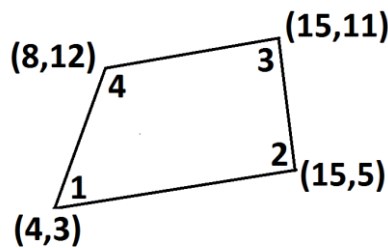

Fig.4.
33. Compute the strain displacement matrix for the isoparametric element shown In fig. 4 at the natural co-ordinate values $r = + 0.57735$ and $s = - 0.57735$